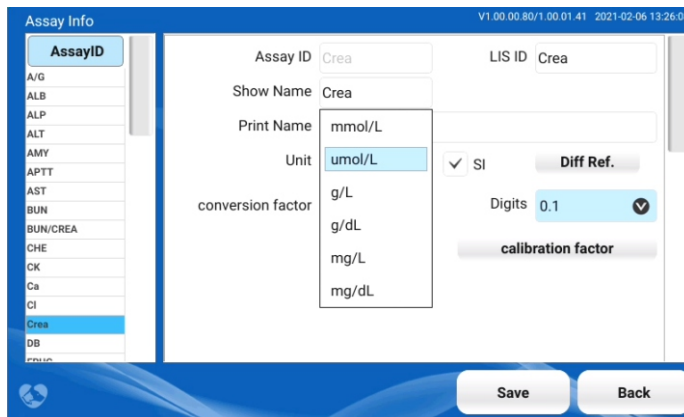

Figure 4-4-2
The project calculation and result units of this system are divided into international standard units (SI) and ordinary units. The factory default is SI. Users can choose to change the calculation unit of each item according to their needs, as shown in Figure 4-4-2.